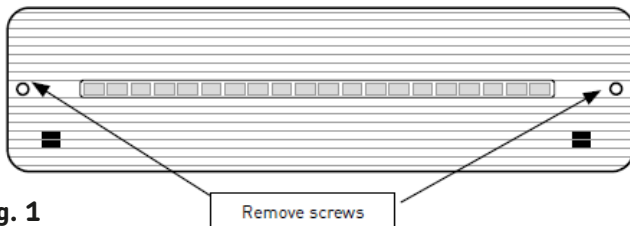

Fig. 1
- Release the gear tray by pushing the release tabs outwards (see Fig. 1)